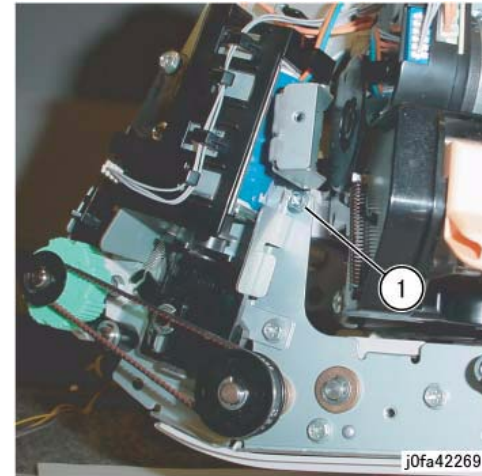

Figure 5 Removing the Tapping Screw (j0fa42269)
11. Remove the front Tapping Screw. (Figure 5)
12. Remove the rear Screw. (Figure 5)